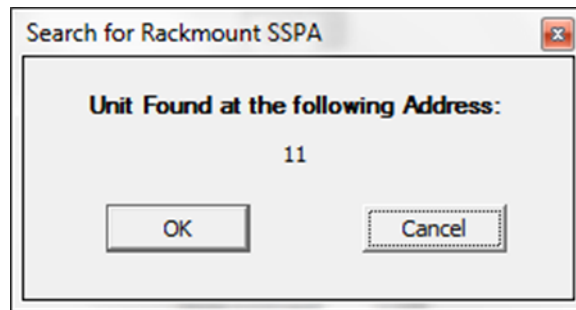

Figure 7-9: Dialog Window, Search for Rackmount SSPA
6. Enter the global address (255) in the Amplifier Address field, and click on the [Search for Unit] button. The utility will locate the unit on the network. See **Figure 7-9**. Click on the [OK] button.